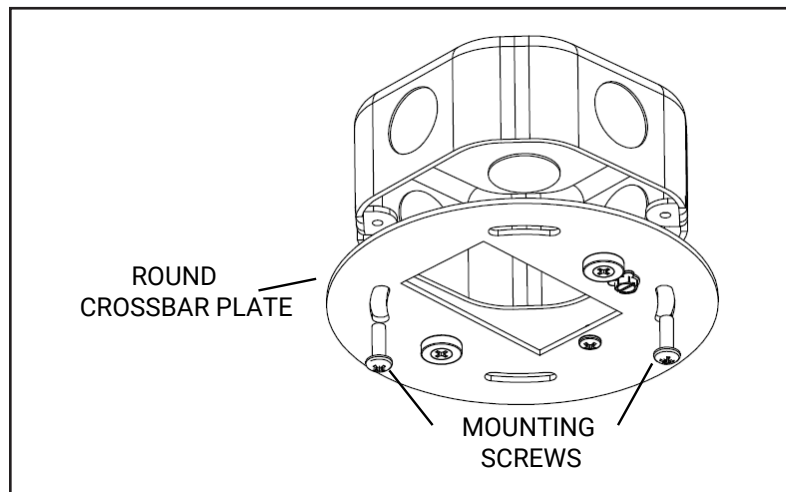

Figure 6
9. Install **Round Crossbar Plate** to **J-Box** using **2 Mounting Screws** (not provided) (Figure 6)